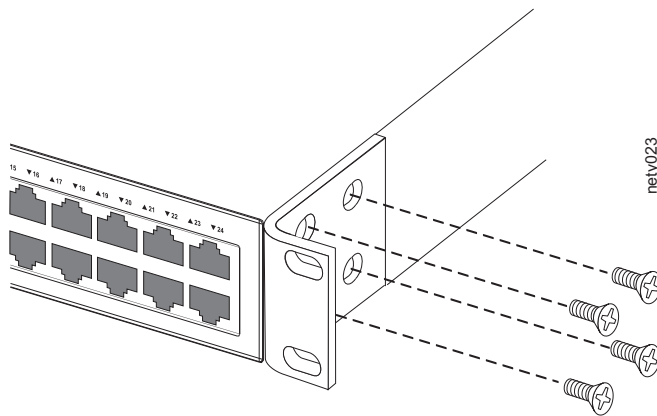
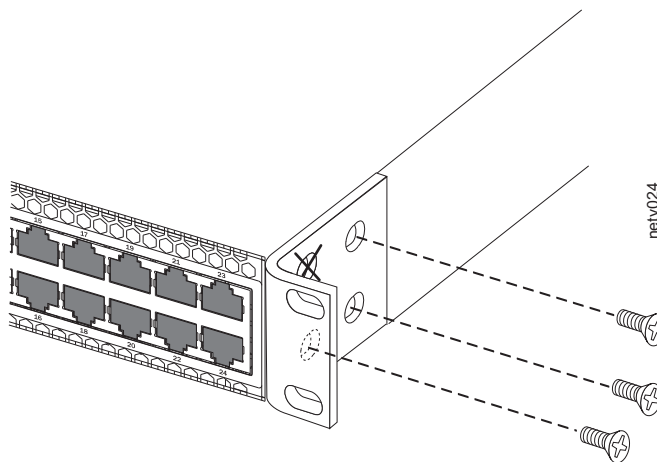

Figure 19. Attaching the brackets for 4002-Y2B and 4002-Y4B
Figure 20. Attaching the brackets for 4002-Y2A, Y4A, Y2C, and Y4C
2. Attach the mounting brackets to the sides of the device as illustrated in Figure 19 and Figure 20.
Note: 4002-Y2A, Y4A, Y2C, and Y4C device brackets are mounted using three screws, as shown in Figure 20.